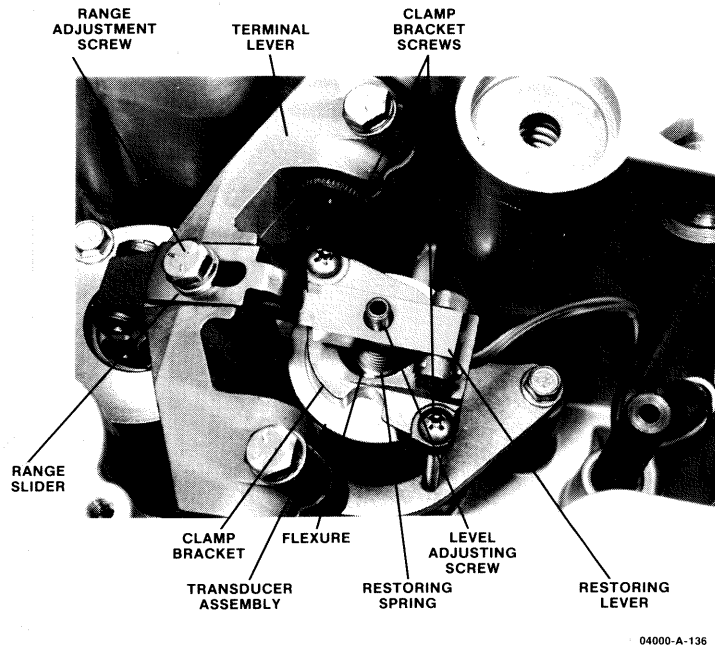

Figure 3-1. TG Actuator with Cover Removed
4. Remove the two screws holding the transducer clamp bracket (brass bracket). Do NOT change the settings of the level adjusting screw or the range adjustment slider (see Figure 3-1 for identification of parts).
- (1) Remove the two screws holding the transducer clamp bracket (brass bracket). Do NOT change the settings of the level adjusting screw or the range adjustment slider (see Figure 3-1 for identification of parts).
- (2) Turn the clamp bracket slightly to one side to release the restoring lever from the terminal lever.
- (3) Remove the restoring spring.
- (4) Lift off the transducer assembly and carefully move it to the side.
- (5) Pull out the pilot-valve plunger and its bushing.
- (6) Remove the snap ring from the pilot-valve bushing and pull out the pilot-valve.
- (7) Immerse the pilot-valve plunger and bushing in diesel fuel oil or approved cleaning solvent and wash ultrasonically or by agitation. Use a non-metallic brush or jet of compressed air to clean slots, bushing filter screen, holes, and pilot-valve plunger orifice.
- (8) Make sure that the pilot-valve plunger slides freely of its own weight while shaking the bushing, after reassembling the pilot-valve plunger into the bushing. If not, disassemble and check for nicks or scratches on plunger lands.
- (9) Reinstall the transducer assembly in reverse order from disassembly, making certain that all parts are properly seated.
- (10) Torque the two screws holding the transducer clamp bracket evenly to 25 lb-in (2.8 N·m).
12. If no movement of the actuator terminal shaft was seen after starting the turbine in Step 5 above, turn the level adjusting screw 1/8 turn clockwise with a 1/8 inch (3 mm) Allen wrench. The level adjusting screw can be found above the transducer (see Figure 3-1).
15. If terminal shaft travel is incorrect, adjust the range adjustment (see Figure 3-1). Moving the range lever slider away from the center of the actuator decreases the range, and moving it towards the center increases the range.
12. All calibration is done open loop. Set the power supply to 20 mA. Turn the level adjusting screw counterclockwise (see Figure 3-1) with a 1/8 inch (3 mm) Allen wrench, until the terminal shaft moves from 1 to 3 degrees from the minimum position.
13. Set the power supply to 160 mA. The terminal shaft must move from 37 to 39 degrees from the minimum position. Adjust the range adjustment (see Figure 3-1) if terminal shaft travel is incorrect. Moving the range slider away from the center of the actuator decreases the range, and moving it toward the center increases the range (27 to 29 degrees for the TG-10E.)